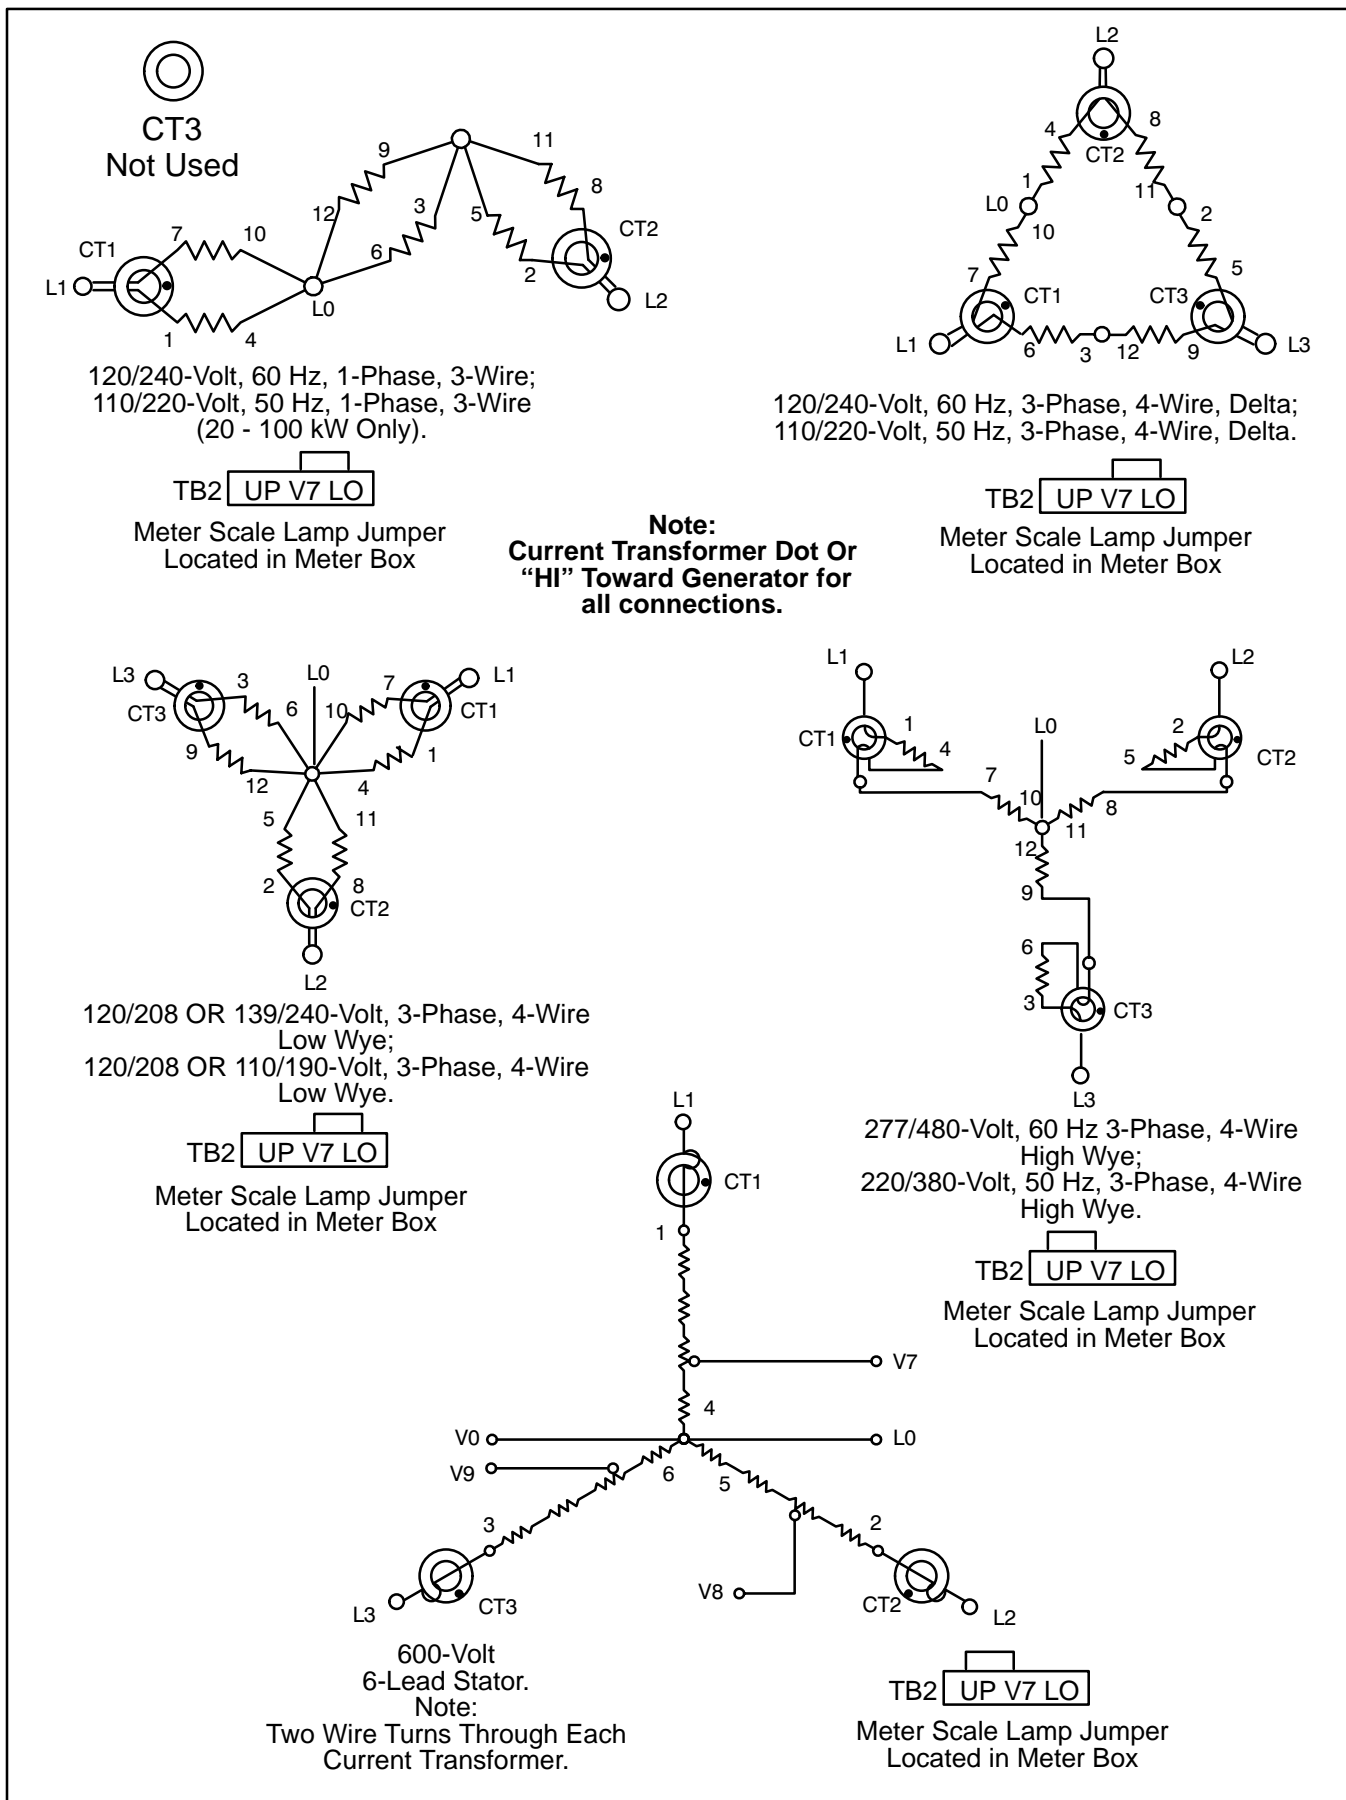

Figure 3. Generator Connections
7. Route generator leads through current transformers for connection to bus bars as shown in Figure 3 according to system voltage specified in plans. Connect generator leads to bus bars as shown in Figures 2 and 3.
See Figure 3 for